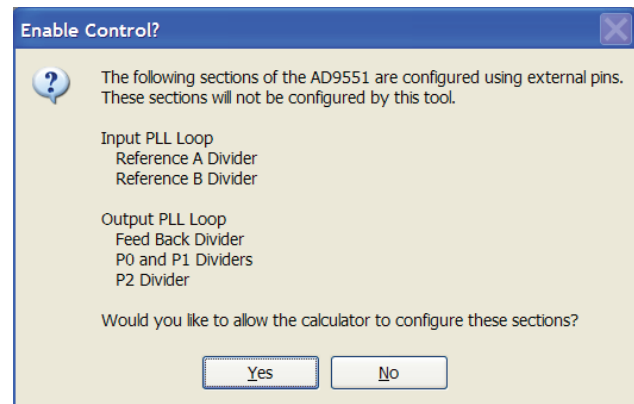

Figure 20. AD9551 Serial Port Programming Warning
5. The **Enable Control?** window, shown in Figure 20, appears.